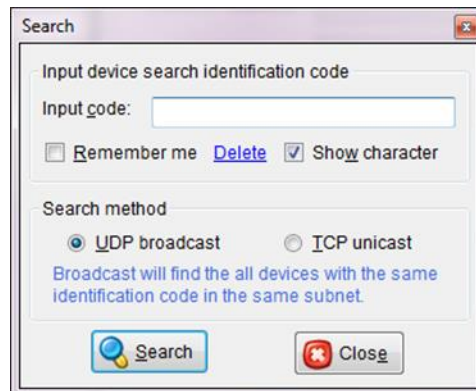

Figure 3-3 Configuration Tool – UDP Broadcast Search Box
Press the "Search" button in the upper left-hand corner of the initial dialogue box. This will bring up an additional search box as shown in Figure 3-3.
Step 5: The Network Connections window shows the available connections the target host can use. Right-click on the local area connection connected to the DHCP enabled network and select "Properties". See figure 3-3.